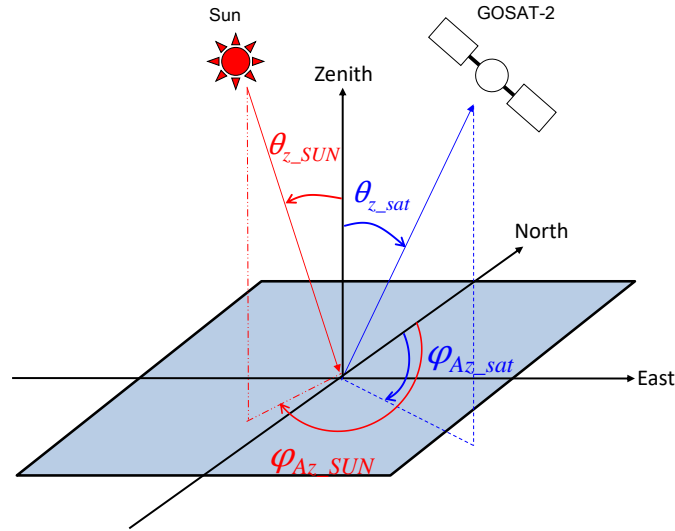

Figure 3.5.8 -1 Sensor and solar zenith/azimuth angle
- (2) The Definition of angle between lunar to satellite vector and solar to satellite vector (Figure 3.5.8-2)